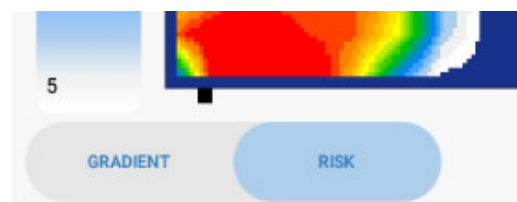

Figure 2 – Risk and Gradient
- Gradient and Risk display choices, as shown here in Figure 2